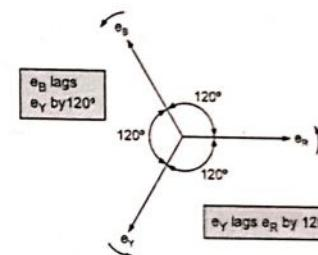

Fig. 4.3.3 Phasor diagram
- All coils together represent three phase supply system. The waveforms are shown in the Fig. 4.3.3.
- The phasor diagram of these voltages can be shown as in the Fig. 4.3.3.